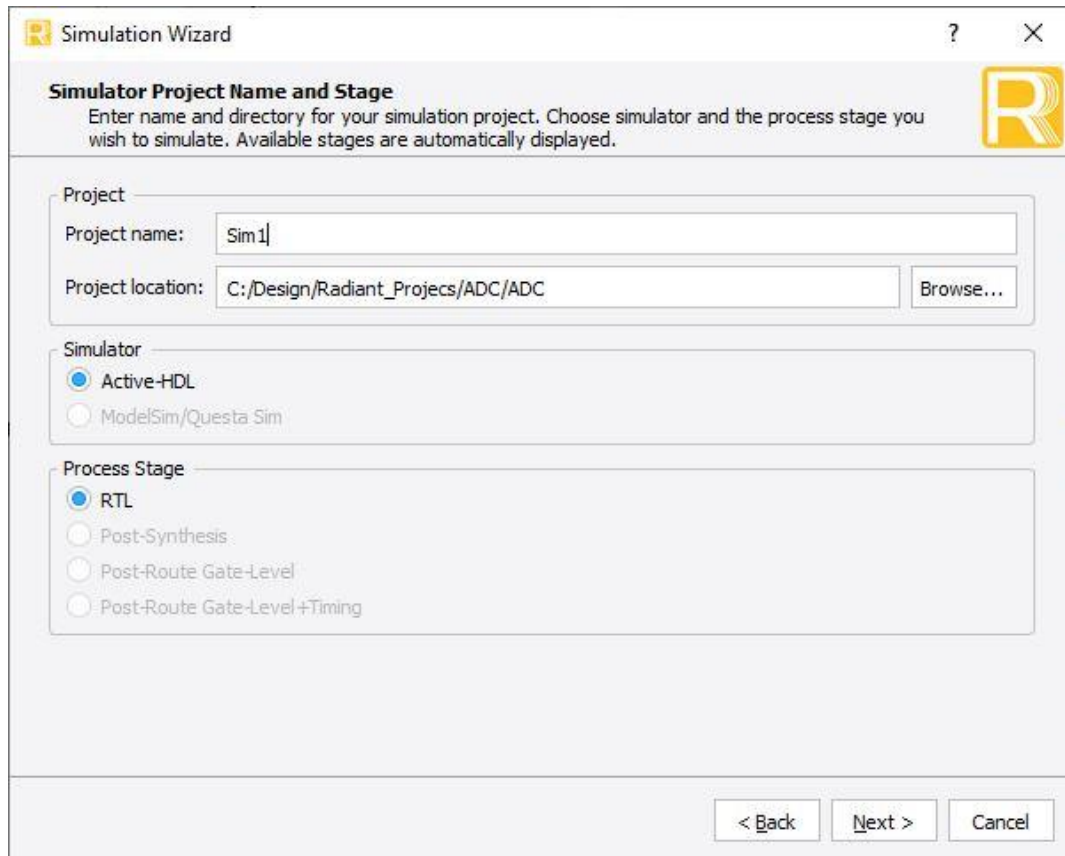

Figure 3.4. Simulation Wizard
2. Press  button located on the Toolbar on the upper left of the screen to initiate Simulation Wizard, as shown in Figure 3.4.